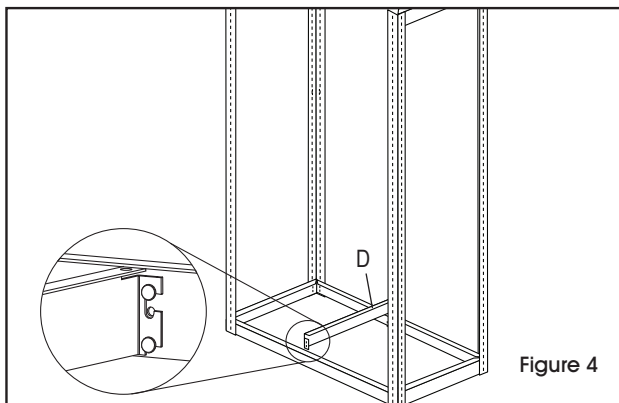

Figure 4
4. Attach shelf support (D) at bottom level by placing the keyhole slots (on shelf support) over the rivets (on front/back support) and tapping them into place. (See Figure 4)